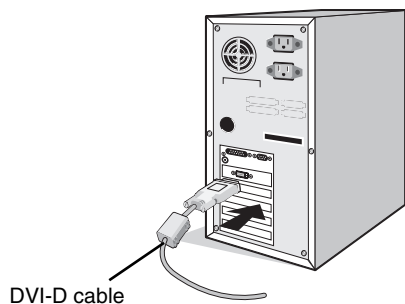

Figure A.1
2. **For a PC with DVI digital output:** Connect the DVI-D cable to the connector of the display controller in your system (**Figure A.1**). Tighten all screws.